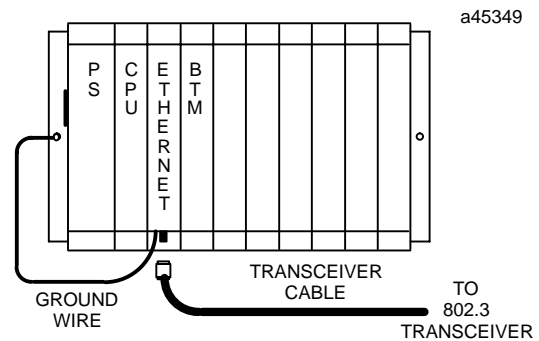

Figure 4. IC697 PLC Rack Layout
4. Slide the Ethernet Controller into the slot for which it was configured in the system - normally the first available slot to the right of the CPU or Bus Transmitter Module (BTM). (See Figure 4. for the IC697 PLC rack layout)
5. Connect the free end of the ground wire (18 inch long green wire attached to the Ethernet module) to the ground lug at the side of the IC697 PLC rack. (See Figure 4.)